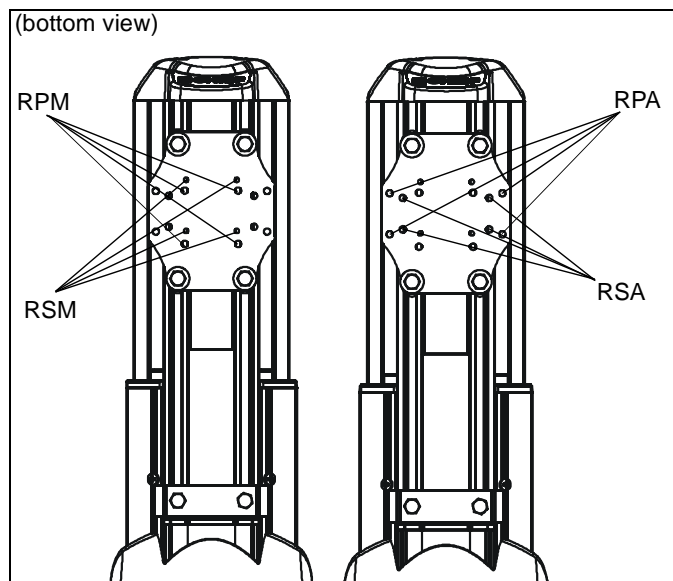

Figure 15
Refer to Figure 15 to determine hole configuration to use for each specific projector mount.
1. Line up mounting holes on RPM mount with corresponding holes on projector mounting plate. (See Figure 15)
1. Line up mounting holes on RSM mount with corresponding holes on projector mounting plate. (See Figure 15)
1. Line up mounting holes on RPA mount with corresponding holes on projector mounting plate. (See Figure 15)
1. Line up mounting holes on RSA mount with corresponding holes on projector mounting plate. (See Figure 15)